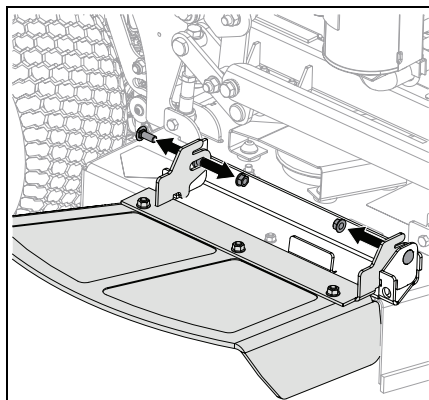

Figure 48
* Remove discharge chute bracket for operation with grass catcher. Reinstall chute bracket for operation without grass catcher. See Figure 48.